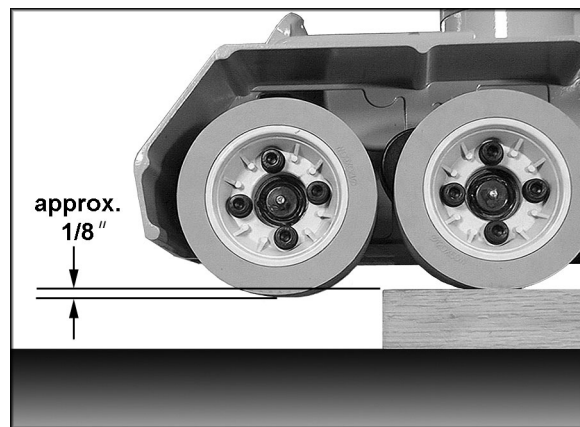

Figure 17
6. When used in horizontal position, the stock feeder should be adjusted for height so that the distance between the table and the feed rollers is approximately 1/8" (3mm) less than the thickness of the workpiece. See Figure 17.
- When mounting the Stock Feeder in edgewise position, keep in mind the spring tension of the rollers. The distance between the shaper fence and the feed rollers should be approximately  $1/8"$  (3mm) less than the thickness of the workpiece (refer to Figure 17).